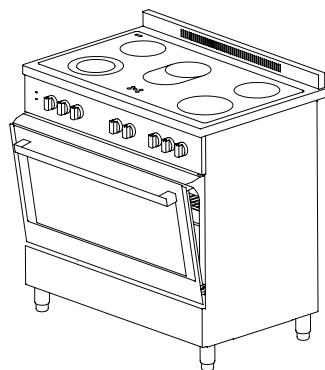

Figure 14
4. And then secure the safety panel in between oven and front cover by gently closing the cover. (figure 14)